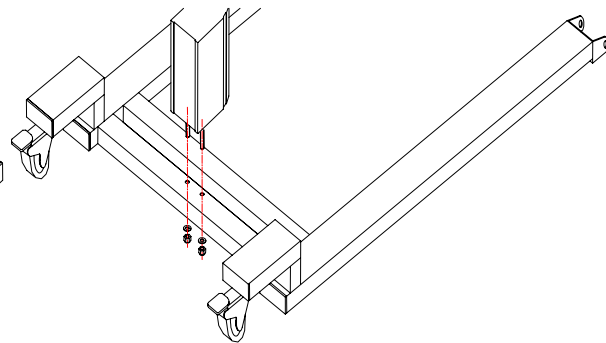

Fig. 2
2. To assemble the upright, undo the nuts and washers from the bolts at the base of the column. Carefully insert the column bolts into the corresponding holes in the base with the column control fascia to the rear (see Fig. 2). Refit washers and locknuts to column bolts by hand and then use a 19mm AF spanner to fully tighten. **Do not over tighten.** Test the upright for rigidity in relation to the base.